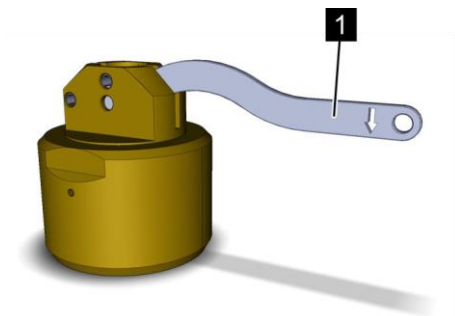

Fig. 167: Hand lever up
5. ➤ Return the hand lever (Fig. 167/1) to starting position.